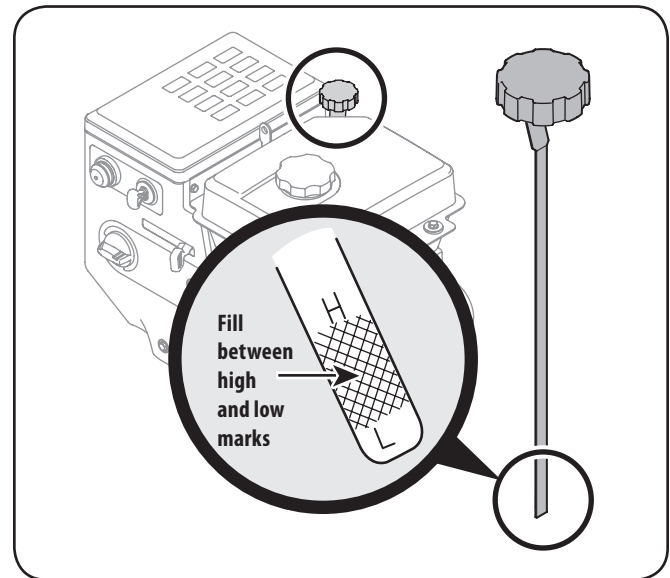

Figure 3-13
1. Remove the oil filler cap/dipstick and wipe the dipstick clean. See Fig. 3-13.
3. Remove the oil filler cap/dipstick. If the level is low, slowly add oil until oil level registers between high (H) and low (L), Fig. 3-13. Refer to the Engine Maintenance section for correct oil viscosity and engine oil capacity.